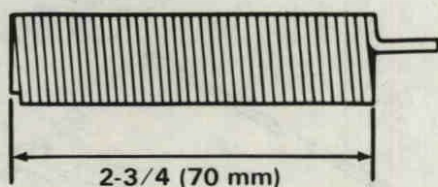

Figure 5. Checking Rewind Spring.
- D. Check rewind spring for wear and length. Original free length is 2-3/4" (70 mm). Figure 5.